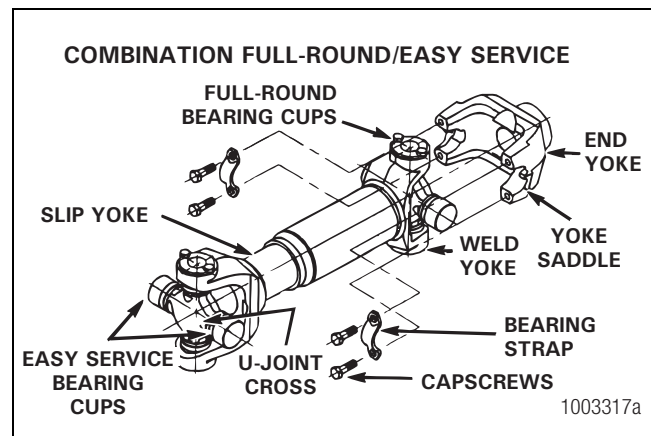

Figure 4.22
1. Check the driveline for looseness. If loose, service the driveline as necessary. Figure 4.22.
- Check the driveline for looseness. If loose, service the driveline as necessary. Figure 4.22.